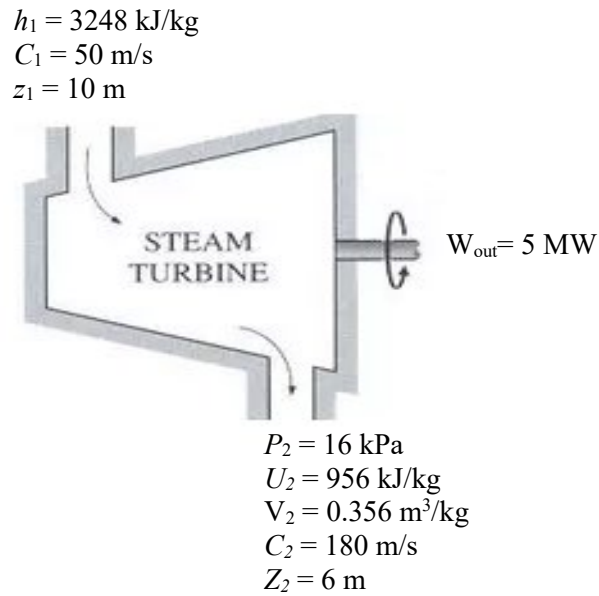

Figure Q3(d)
- CLO2 (d) The power output of an adiabatic steam turbine is 5 MW, with the inlet and the outlet values of the steam are as indicated in Figure Q3(d). If the given the value of $g = 9.81 \text{ m/s}^2$, calculate: